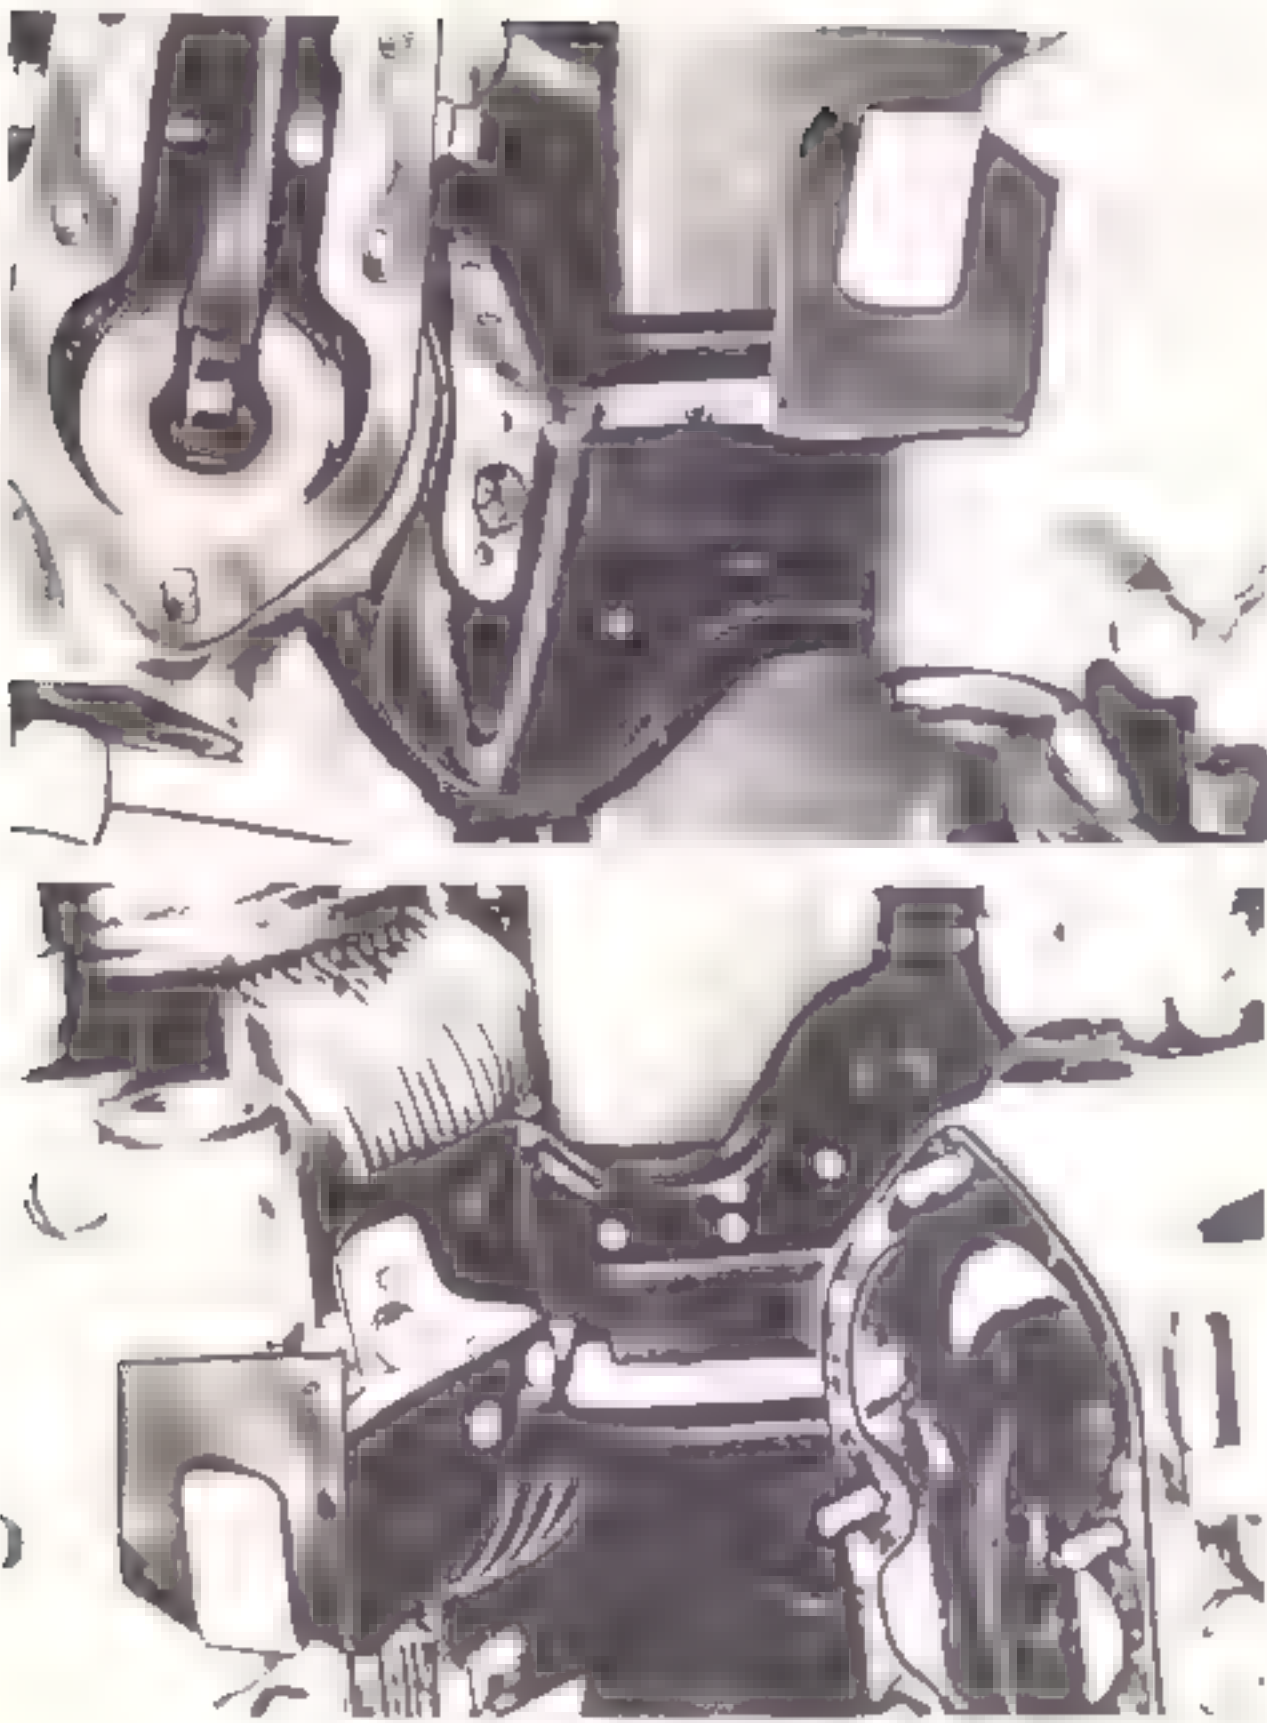

Figure 5-10. Intercylinder air deflator at oil sump location
b. Remove lock wire, and remove capscrews and washers securing oil sump deflector to cylinders No. 5 and 6. (See figure 5-10.) Remove deflector.